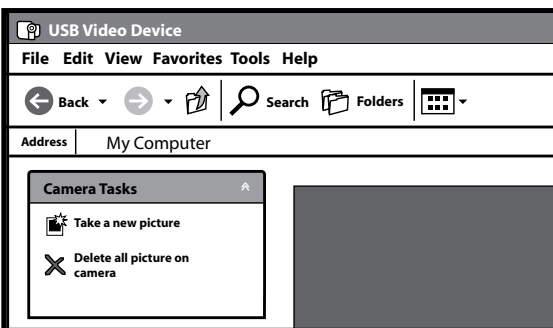

Figure 9
4. Click the "Take A New Picture" icon located in the "Camera Task" menu to take a photo of the live image displayed in the "Photo Area" (fig. 9).